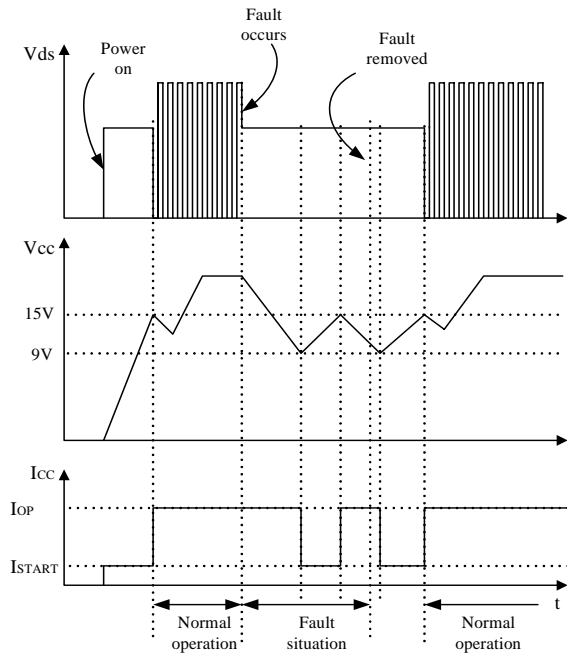

Figure 12. Auto Restart Mode Protection
**-Auto-restart mode protection:** Once the fault condition is detected, switching is terminated and the SenseFET remains off. This causes  $V_{cc}$  to fall. When  $V_{cc}$  falls to the under voltage lockout (UVLO) stop voltage of 9V, the protection is reset and the FSCQ-Series consumes only startup current (25uA). Then, the  $V_{cc}$  capacitor is charged up, since the current supplied through the startup resistor is larger than the current that the FPS consumes. When  $V_{cc}$  reaches the start voltage of 15V, the FSCQ-Series resumes its normal operation. If the fault condition is not removed, the SenseFET remains off and  $V_{cc}$  drops to stop voltage again. In this manner, the auto-restart can alternately enable and disable the switching of the power SenseFET until the fault condition is eliminated (see Figure 12).